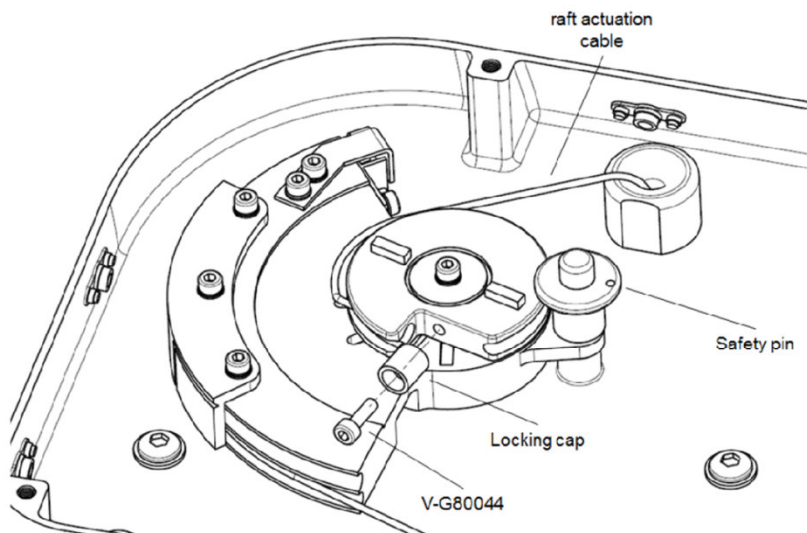

Figure 3 – Raft actuation cable release / locking
- (b) Remove the Locking cap P/N 309807A unscrewing the screw P/N V-G80044 and release the raft actuation cable from the Upper Pulley P/N 309774A. Ref to Figure 3.